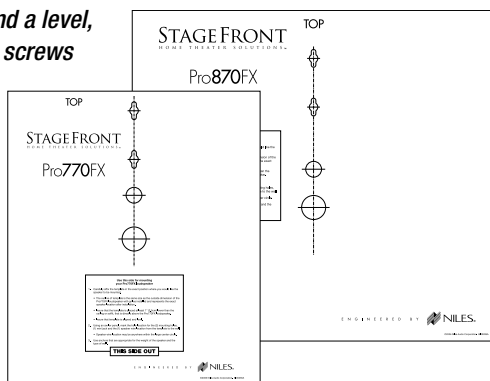

Figure 4. Use the supplied loudspeaker template for on-wall installation.
3. Using the supplied template and a level, mark the position for your two screws (see **Figure 4**). Check width available for the model you are using and install two screws into wall. Ensure that the screws and the mounting material can support the loudspeaker you are installing. The mounting material can be a stud or anchors of a type that are sufficient for this requirement.